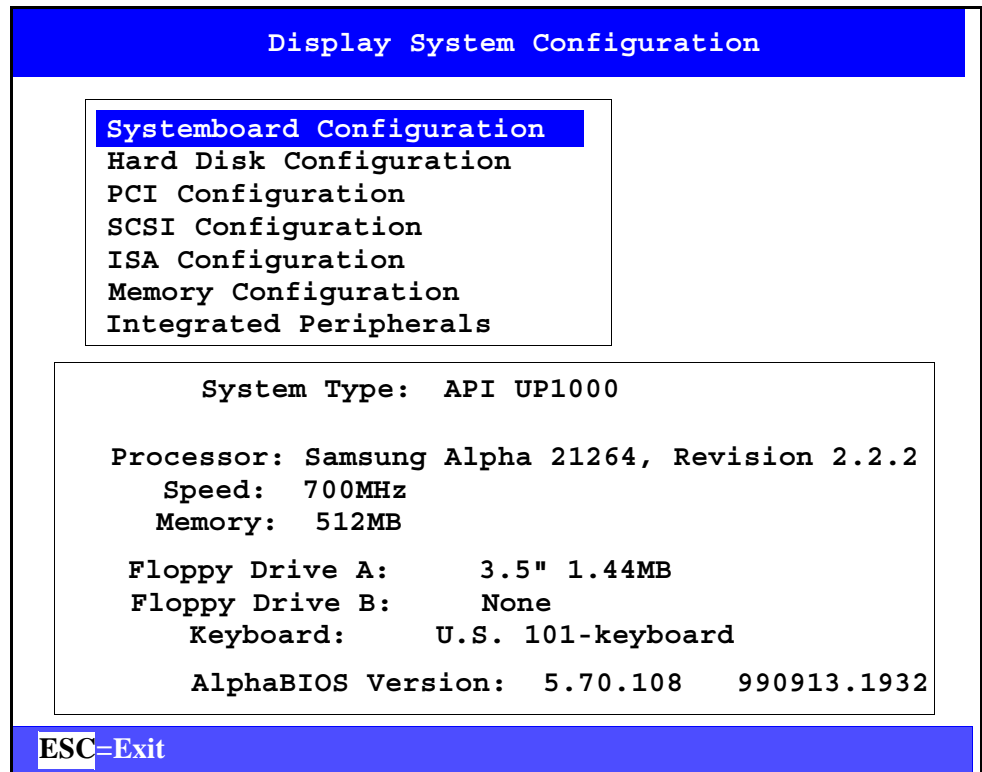

Figure 4-2 Display System Configuration Screen
- Using the arrow keys, select a subsystem to display from the list box. Examples of configuration displays are shown in Figure 4-2 to Figure 4-7.